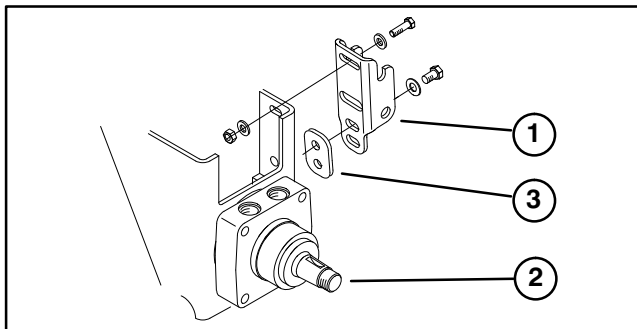

Figure 6
MOUNT BLOWER (Fig. 6–8)
A. On Sand Pro 2020/3020 – Mount top of receiver bracket to frame with a 3/8–16 x 1.50" lg. capscrow, (2) .40 I.D. x .81 O.D. flat washers and locknut. Mount bottom of receiver bracket to frame with a 1/2–13 x .875" lg. capscrows and (2) .56 I.D. x 1.063 O.D. flat washers. Position components as shown in figure 6.
Note: Spacer, shown in figure 6, is also required if machine is equipped with fenders.